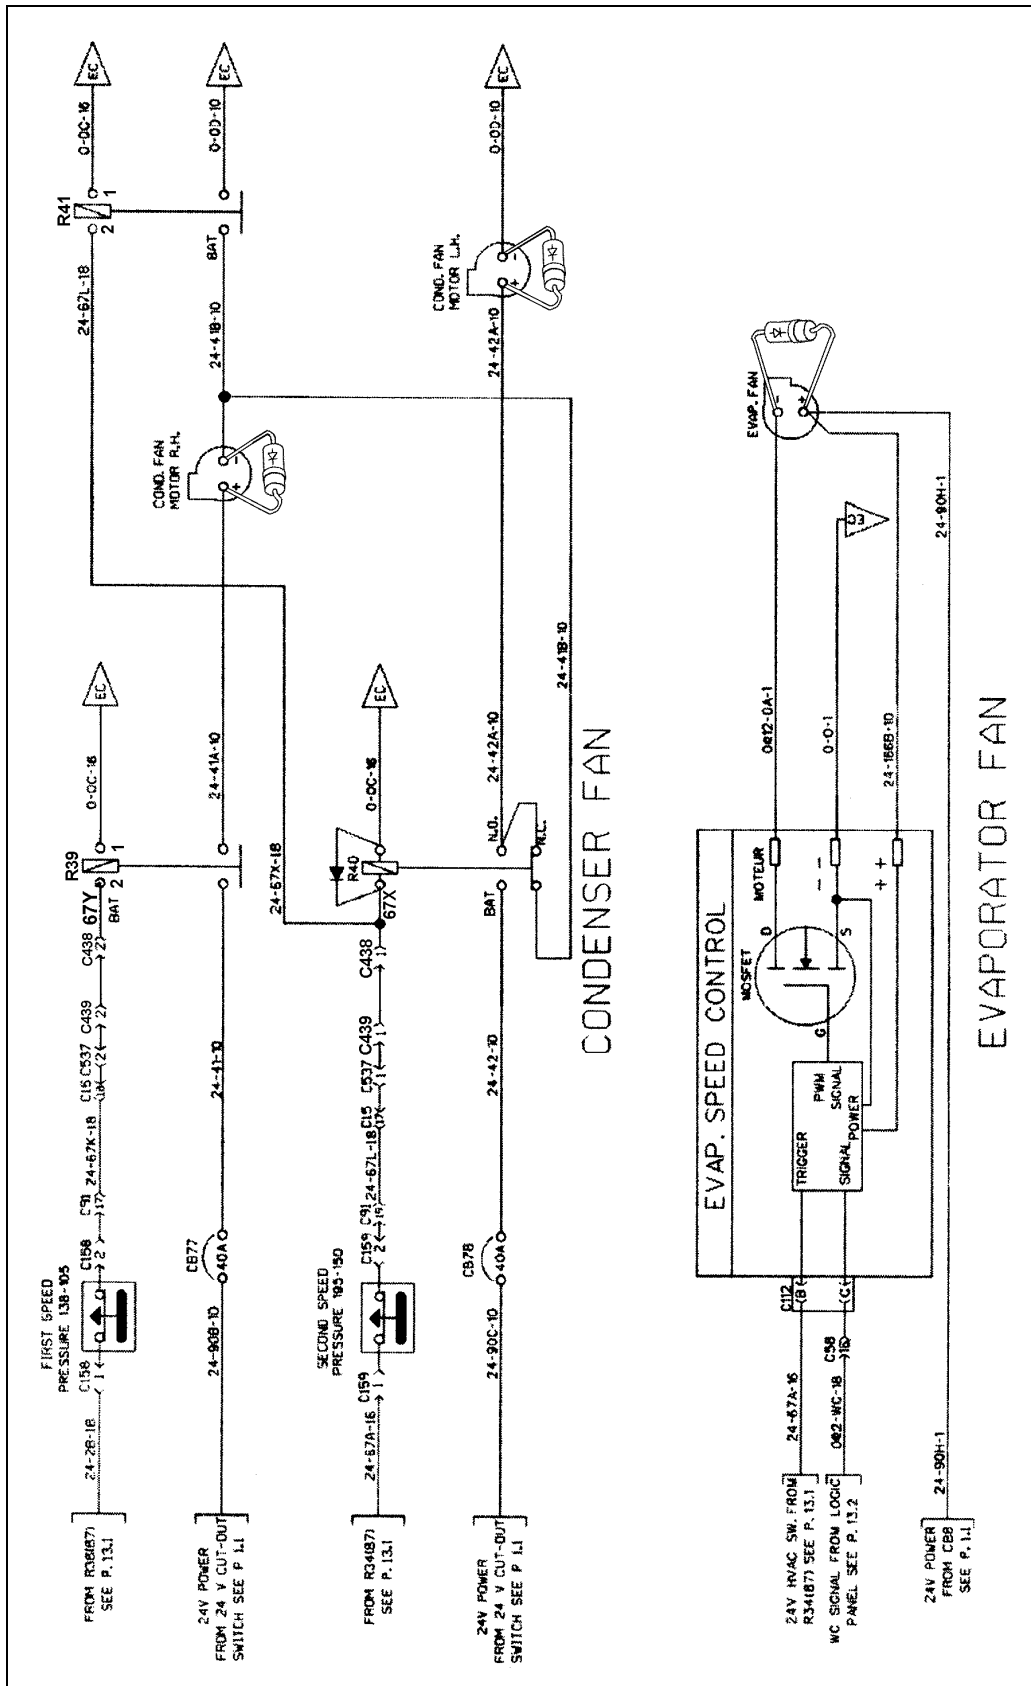

FIGURE 3 : NEW INSTALLATION
7. Crimp a ring terminal (560082) and (560083) at the end of each diode (561740). Cut the plastic tube (560382) into three 4-inch pieces then insert a diode assembly into each plastic tube. Install one diode assembly on each condenser motor and one on the evaporator motor as shown in figure 3.